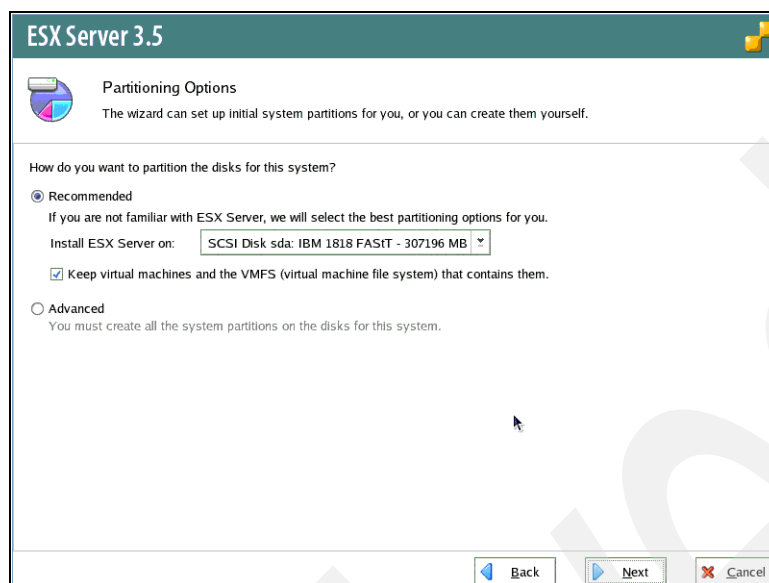

Figure 28-7 SAN Disk recognition
4. Make sure that the drive is correctly recognized (Figure 28-7).